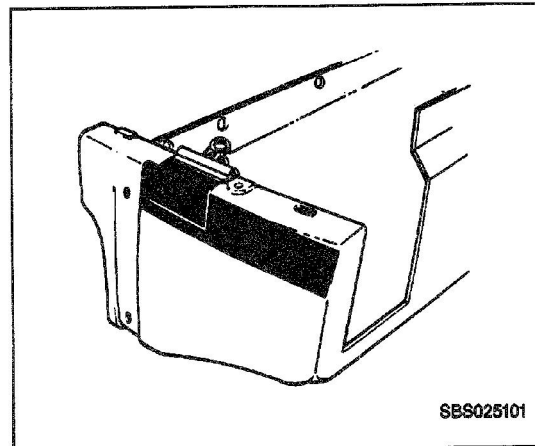

Figure 18—Aligning Damage with Tape Clamp
1. Align and secure the piece on the face side with 3M Aluminum Autobody Repair Tape P/N 06935, P/N 06936, or equivalent, and clamp (Figure 18).